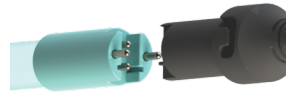

Figure 5. UV Lamp Connection
Step 7: Plug the lamp connector into the lamp. Note the keying for proper alignment (see Figure 5). Insert the lamp connector into the gland nut and turn the connector approximately ¼ turn to lock the connector to the gland nut (Figure 6). The tabs inside the top nut must align with the channels on the lamp connector in order to achieve a proper lock.